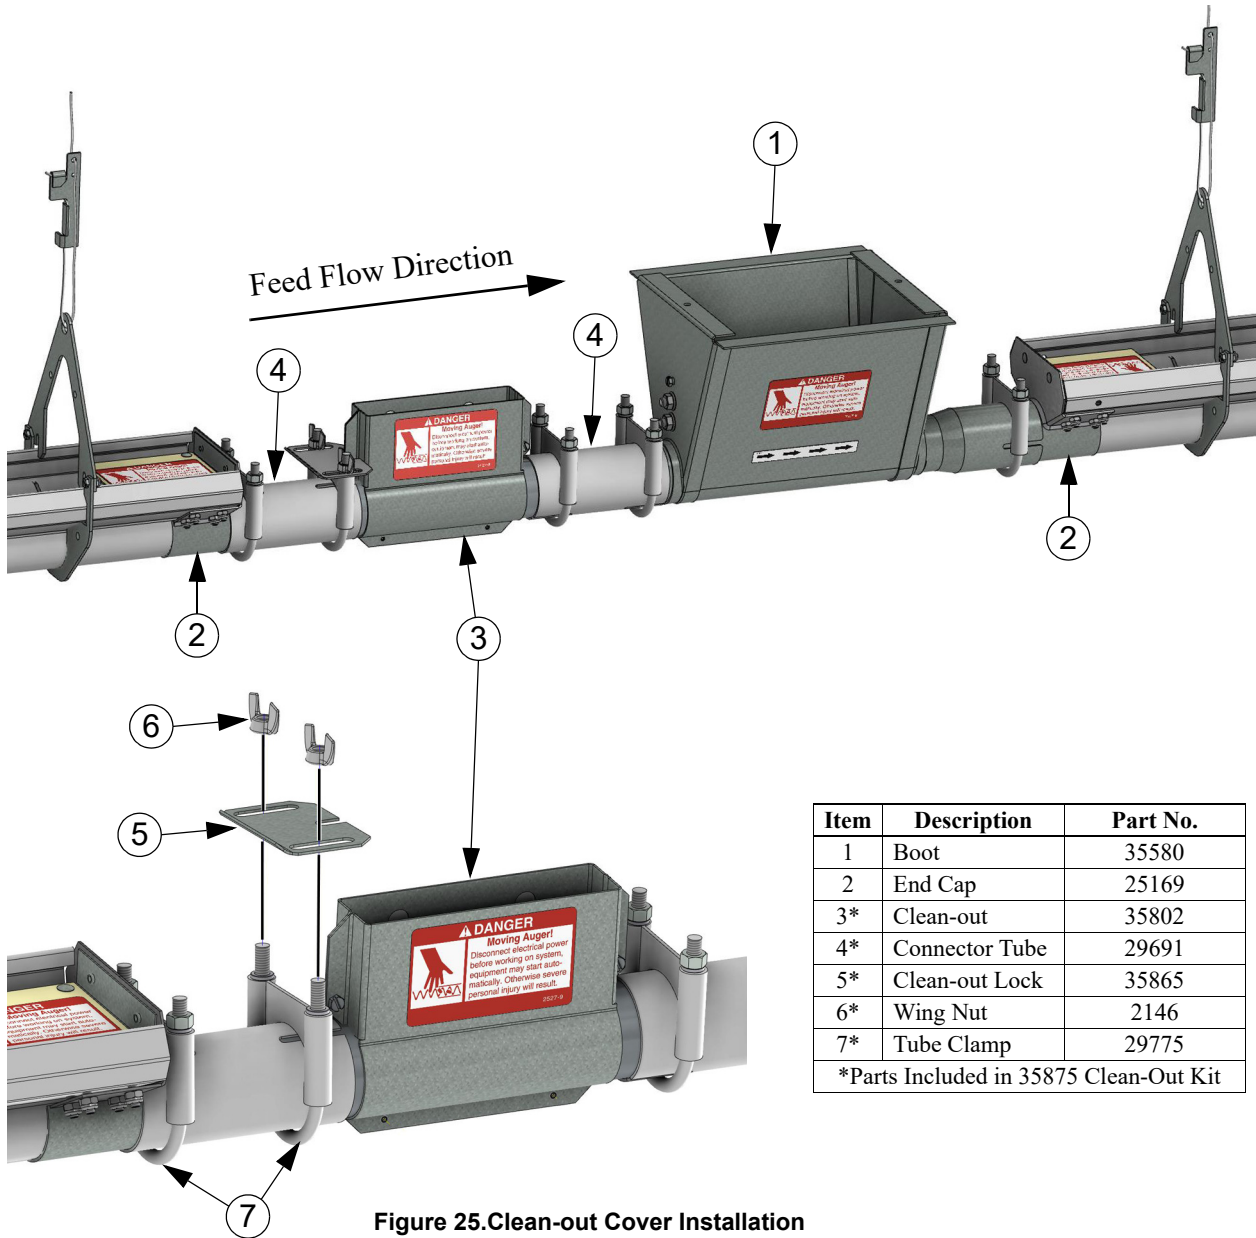

Figure 25.Clean-out Cover Installation
- 1.Install the Clean-out as shown in **Figure 25**. Remove the Nuts from the Tube Clamp closest to the Clean-out and Install the Clean-out Lock (**Item 5**) using the Wing Nuts (**Item 6**) included.